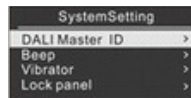
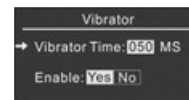
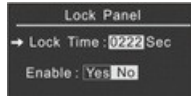
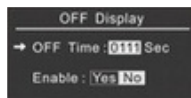

Figure 47
Figure 53
Figure 54
Figure 55
On the system parameter setting page (as shown in Figure 47 to Figure 50), short press up key \triangle /down key ∇ to select "DALI Master ID", then short press confirm key \leftarrow to enter DALI Master ID Setting Page, as shown in following Figure 51.
- Navigate to the System parameter setting page (refer to Figures 47 to 50).
Enter into System parameter setting page as shown in Figure 47 to Figure 50, short press Up key \triangle /Down key ∇ to select "Vibrator", short press Confirm key \leftarrow to enter into Vibrator Setting page as shown in following Figure 53.
Enter into System parameter setting page as shown in Figure 47 to Figure 50, short press Up key \triangle /Down key ∇ to select "Lock Panel", short press Confirm key \leftarrow to enter into Lock Panel Setting page as shown in following Figure 54.
Enter into System parameter setting page as shown in Figure 47 to Figure 50, short press Up key \triangle /Down key ∇ to select "OFF Display", short press Confirm key \leftarrow to enter into OFF Display Setting page as shown in following Figure 55.